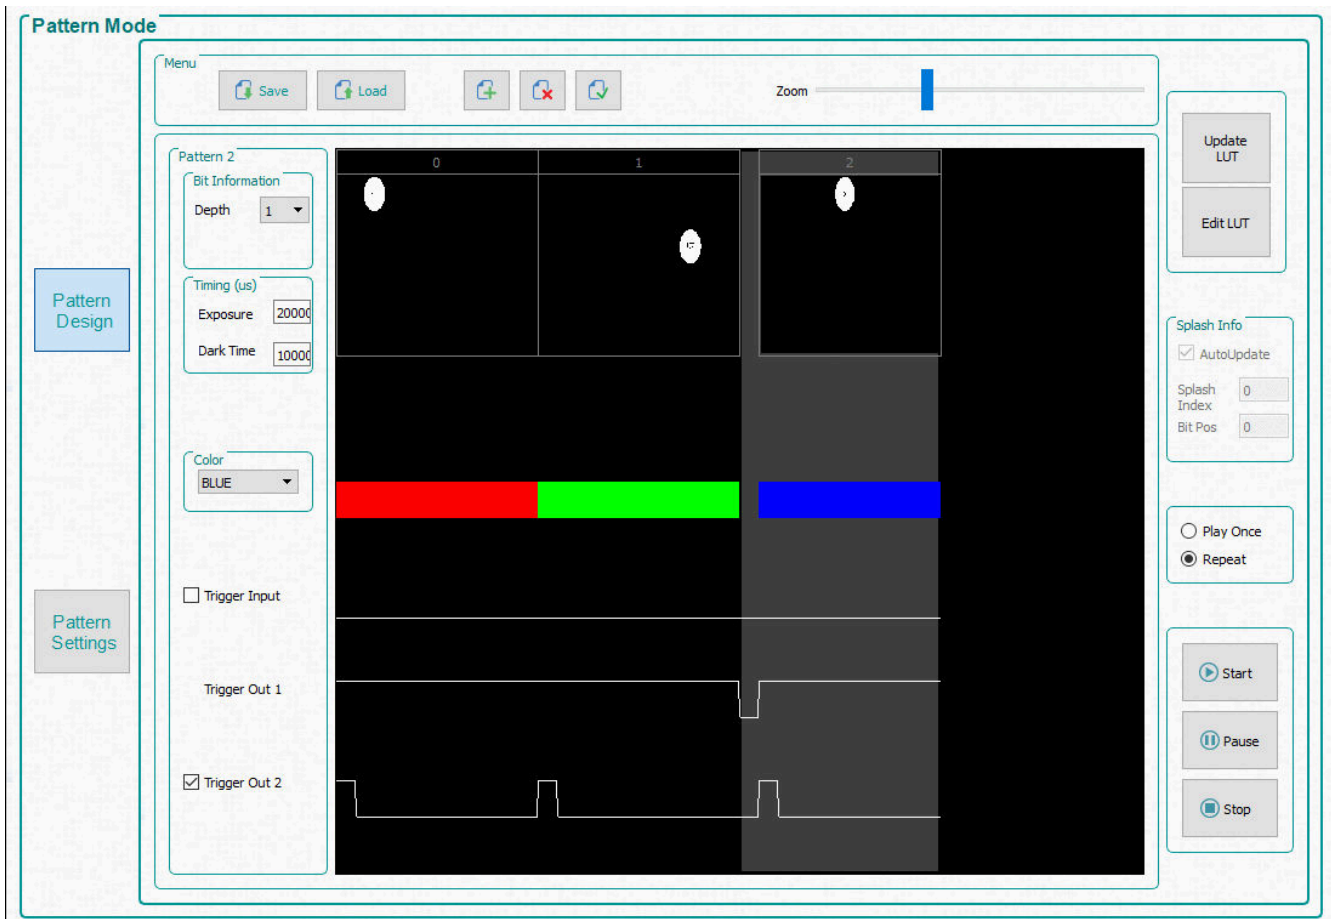

Figure 5-2. Simple Three Pattern Sequence
For the next three steps a selected pattern is indicated by a lighter gray selection area. See Figure 5-2 which shows the third pattern (pattern 2) selected.
5. Select the third pattern (pattern 2) and choose a bit depth of 1. Set exposure to 200000 μ s, dark time to 100000 μ s, and select **Blue** for the color. Figure 5-2 shows the pattern sequence.